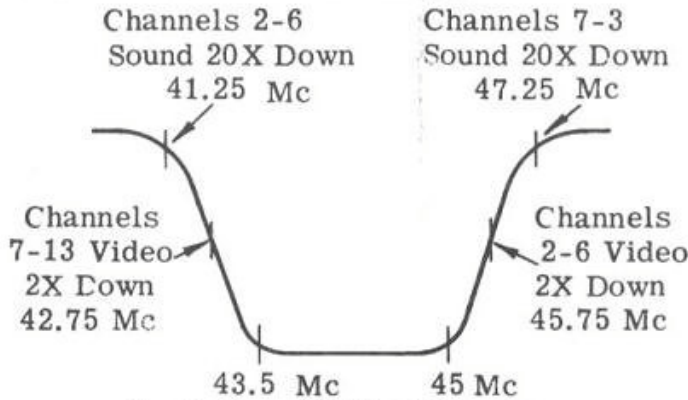
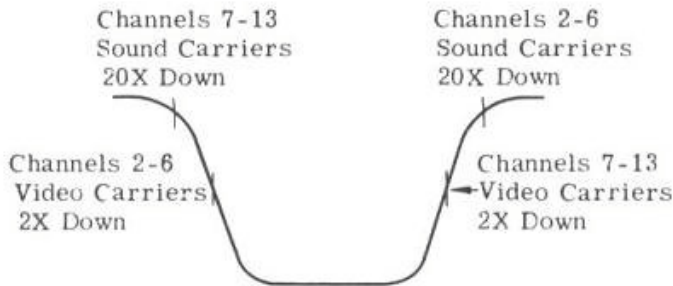

Fig. 34. Over-All Video IF Response.
Fig. 37 RF Response.
3. Feed the sweep generator to the converter grid (terminal "F"). This terminal is near the 6AG5 converter tube. Adjust T2 at 45 Mc and T1 and L58 at 43.5 Mc until a symmetrical overall response curve shown in Fig. 34 is obtained. The 42.75 Mc and 45.75 Mc carrier frequencies should fall at the 50% point on the response curve. A slight readjustment of one or more IF transformers may be necessary if the overall response curve is not similar to the one shown in Fig. 34.
4. Adjust the Mega-Sweep for an RF response curve (See Fig. 37). Set the Mega-Marker Sr. on channel 7 and observe the picture marker on the response curve. Adjust L59 until the channel 7 picture marker falls at approximately 50% down on the response curve.
3. Adjust the Mega-Sweep and check the RF response curve (See Fig. 37) on each channel. If all the response curves are tilted approximately the same amount, first check the IF response to see that it has a reasonably flat top (See Fig. 34) before an attempt is made to adjust the RF trimmers. If the IF response is correct, set the channel selector switch to channel 4 and adjust the RF grid (C10), RF plate (C11), converter grid (C15) for symmetry and amplitude.